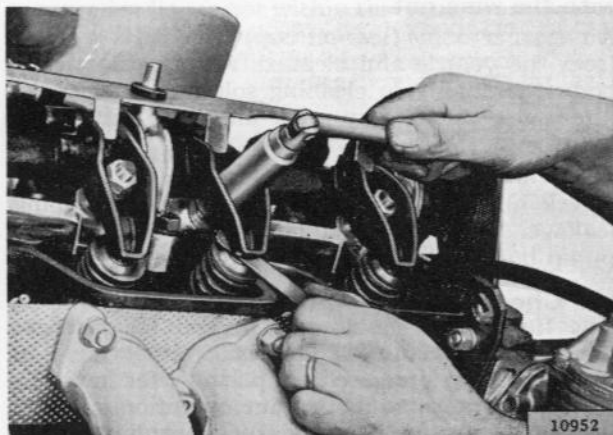

FIG. 63—ADJUSTING VALVE CLEARANCE
- c.** Insert a feeler gauge between the rocker arm and the top of the valve stem as shown in Fig. 63. The correct rocker arm clearance for the exhaust valves is .008" [0,203 mm]. The correct clearance for the intake valves is .006" [0,152 mm]. Use a socket wrench to adjust the clearance. Turning the rocker arm nut clockwise decreases the clearance; turning the rocker arm nut counterclockwise increases the clearance.